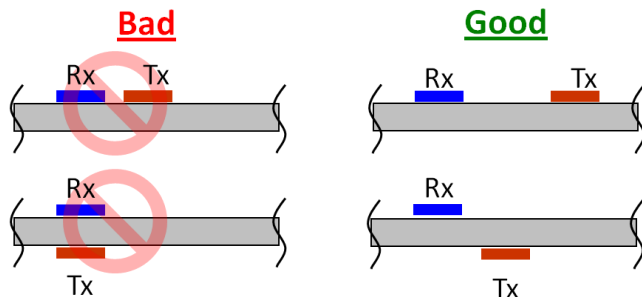

Figure 7 : Rx & Tx Electrode Proximity Routing Cross Section
- Figure 7 : Rx & Tx Electrode Proximity Routing Cross Section.....7*